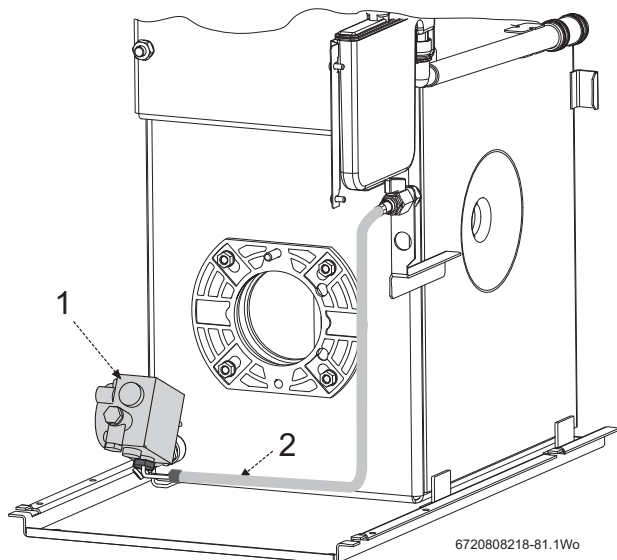

Fig. 90 Oil pump and hose detail
- ▶ Check that the burner is seated correctly on its mounting flange and that the oil hose/s are routed correctly as shown in Fig. 90 and not trapped in front of or underneath the burner.
- ▶ Attach air duct pipe and tighten clip (D) to secure to the burner air intake.